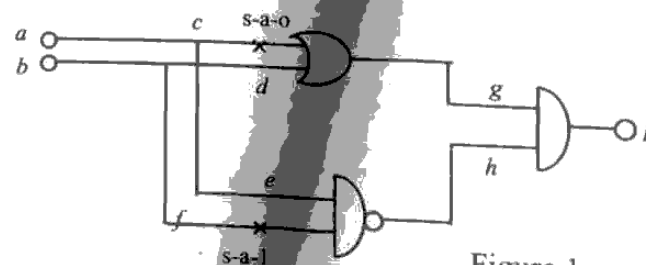

Figure 1
b) Show that the two faults $C/s-a-0$ and $f/s-a-1$ are equivalent in the circuit of figure 1.